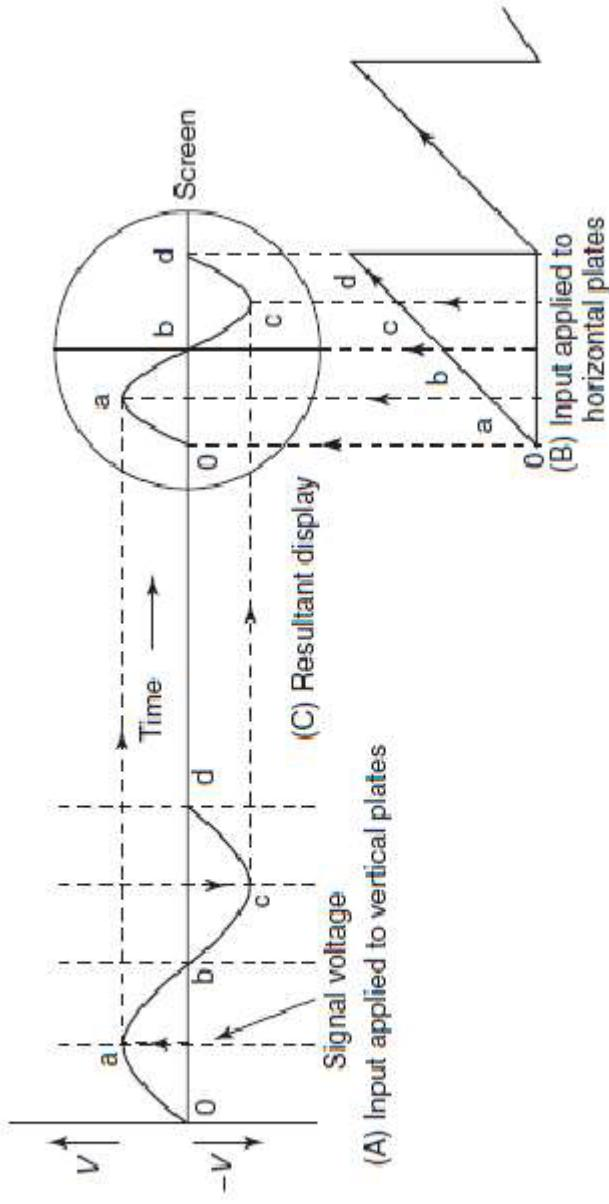

Figure 14-5(a) A typical display waveform on the screen
- Figure 14-5(a) shows a sine wave applied to vertical deflecting plates and a repetitive ramp or saw-tooth applied to the horizontal plates.